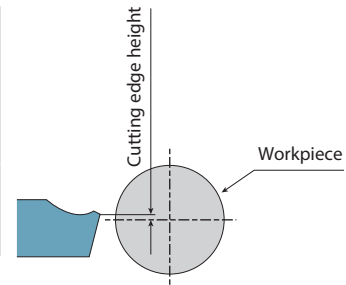

Fig. 3 (TKN, TKR/L)
1. For TKN and TKR/L, set the cutting edge height 0.1~0.2 mm above the center height (Fig. 3)